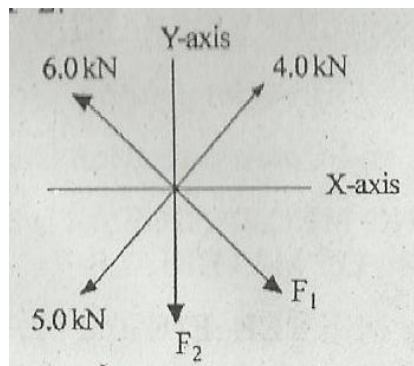

Figure 1
2. (a) The forces shown in the figure 1 below are in equilibrium. Determine the forces F_1 and F_2